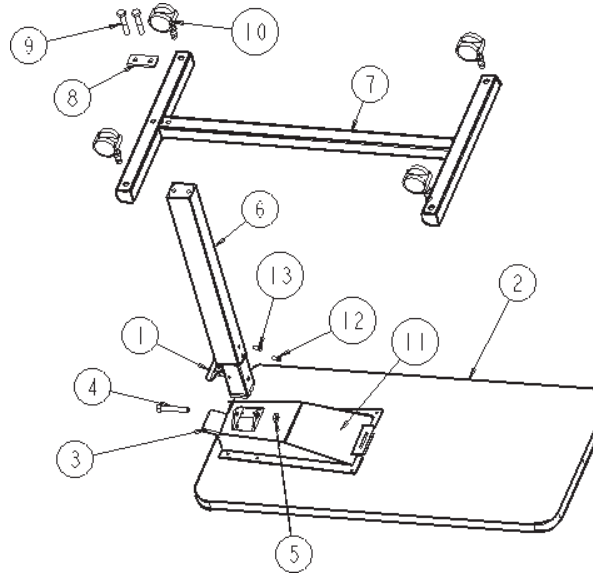

FIG. 1
- 1 Lay tabletop Assembly (#2 & #11) on flat surface with top bracket assembly facing up, as shown in Fig. 1.
- 2 Install column assembly into top bracket as shown with release handle facing away from table top edge (fig. 1). Insert shoulder bolt (#4) through top bracket and column assemblies. Fasten with locknut (#5)